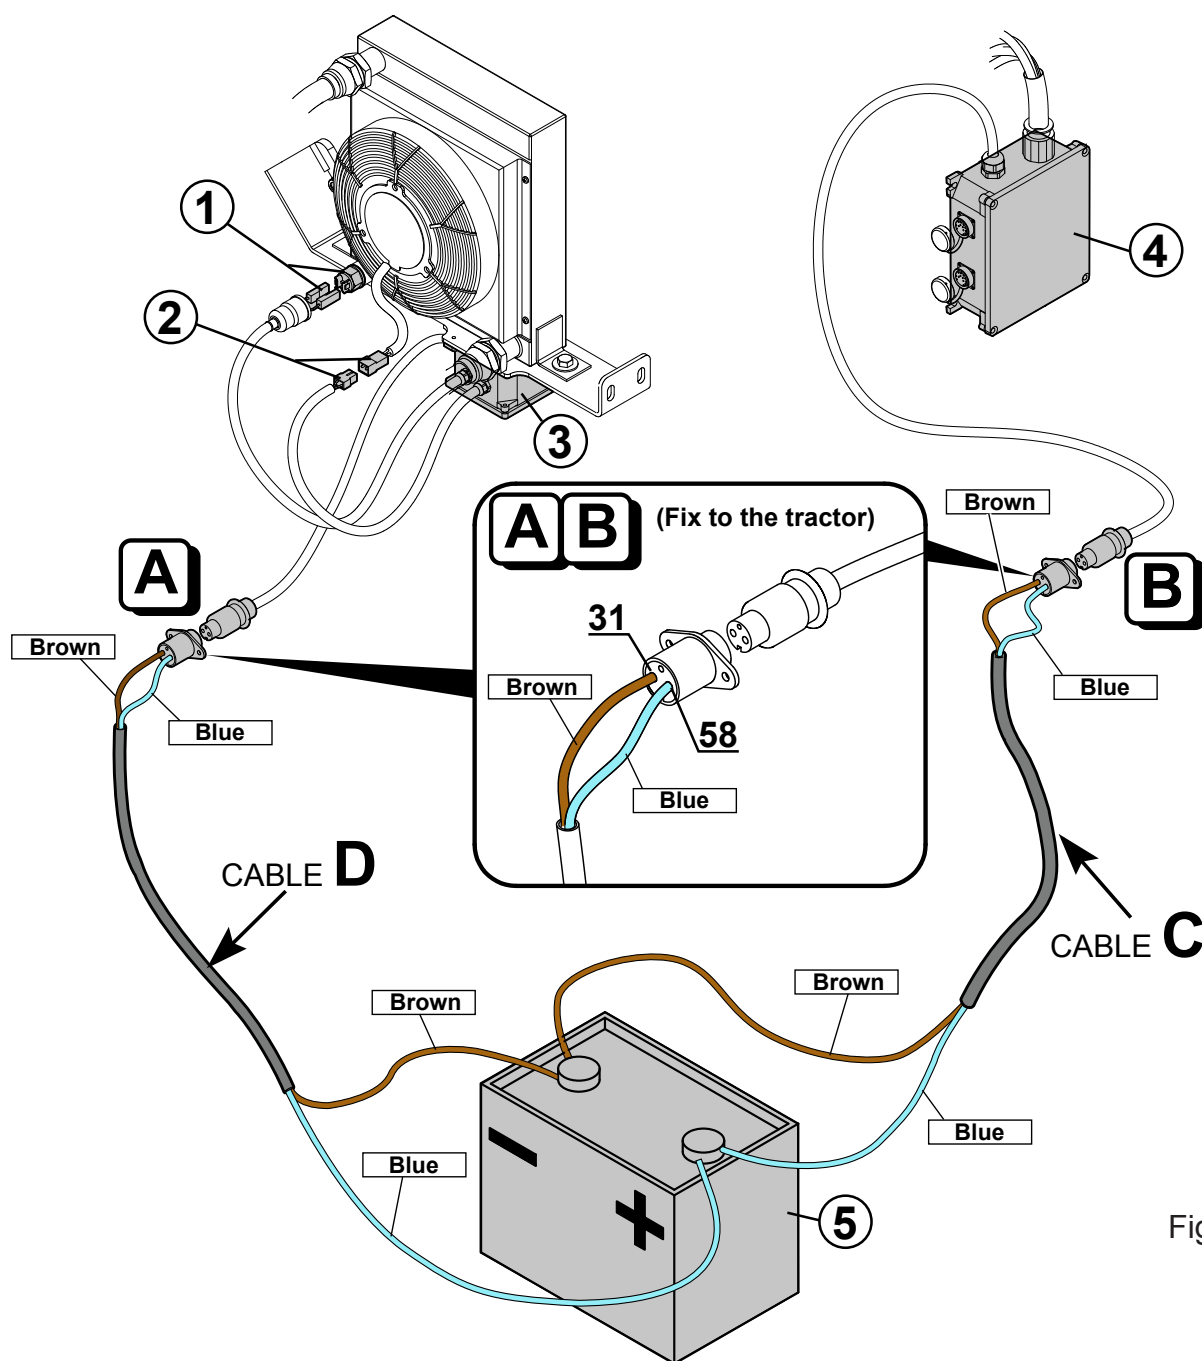

Fig. 24
All flail hedge mowers with electrically/electro-hydraulically controlled distributors (low pressure) and/or heat exchanger, are equipped with electric cables whose wires are coloured as per current laws in force (see FIG. 24) (blue: positive pole (+) fixed to connector no. 58; brown: negative pole (-) fixed to connector no. 31) and of suitable thickness (heat exchanger wire thickness: 2x6 mm²; control box wire thickness: 2x2.5 mm²). Also, to prevent the inversion of polarity near the terminals, the wires are tagged with plastic rings bearing the symbols (+) and (-).
To make the electrical connections proceed as follows: (see FIG. 24)
- connect the socket **(B)** to the battery, (already fixed to the rear part of the tractor) using cable **(C)**, (to be installed by the customer) of thickness 2.5 mm², taking care to make the connections as shown in Figure 24, i.e.:
- connect the socket **(B)** to the battery using a cable **(C)** of thickness 2.5 mm², taking care to carry out the connections as shown in Figure 24, i.e.:
- the connections have been made as shown in FIG. 24